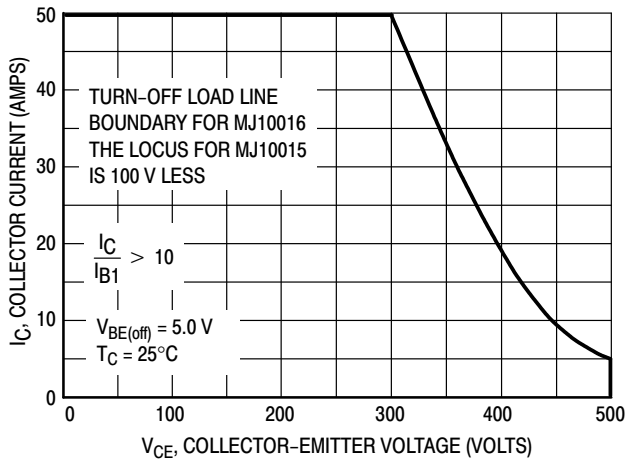

Figure 8. Reverse Bias Switching Safe Operating Area
*Adjust -V such that V_{BE(off)} = 5 V except as required for RBSOA (Figure 8).
For inductive loads, high voltage and high current must be sustained simultaneously during turn-off, in most cases, with the base to emitter junction reverse biased. Under these conditions the collector voltage must be held to a safe level at or below a specific value of collector current. This can be accomplished by several means such as active clamping, RC snubbing, load line shaping, etc. The safe level for these devices is specified as Reverse Bias Safe Operating Area and represents the voltage-current condition allowable during reverse biased turn-off. This rating is verified under clamped conditions so that the device is never subjected to an avalanche mode. Figure 8 gives the complete RBSOA characteristics.